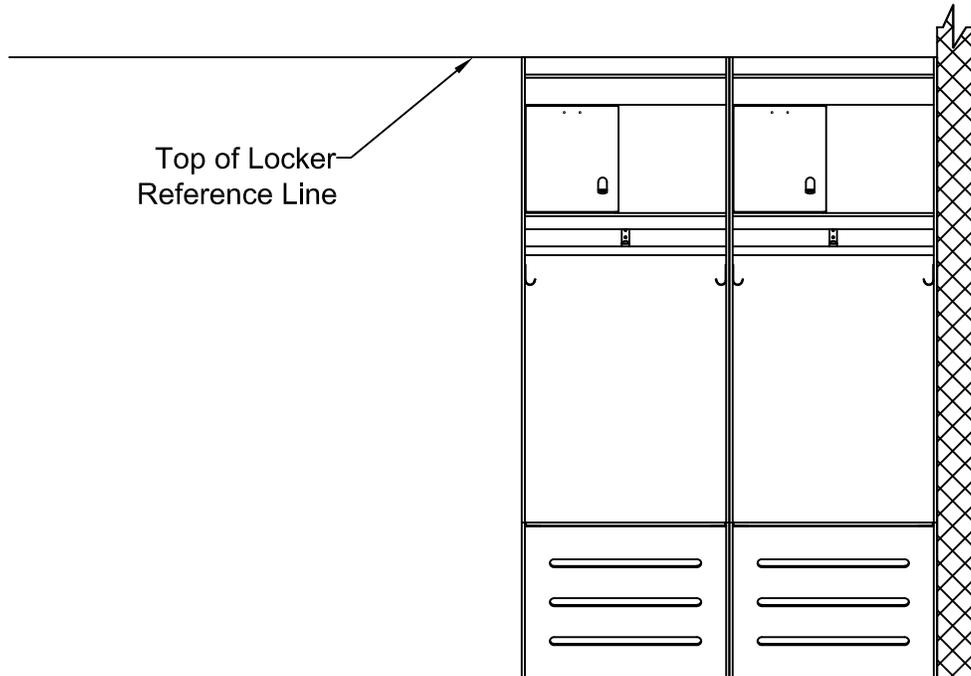

Figure 1.4: Locker Top Reference Line
- 3.4 Using your level, transfer these locations on the walls where the lockers are to be installed, see Figure 1.4.
- 4.3 Adjust the height of the lockers to the top reference line and level the lockers using cedar shims. Ensure the lockers are plumb and that the front of lockers are flush before tightening. Reference figure 1.4.